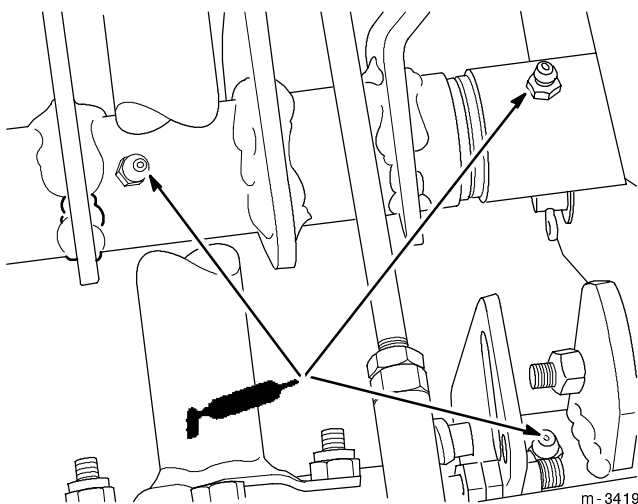

Figure 35
4. Lubricate the three grease fittings (Fig. 35).